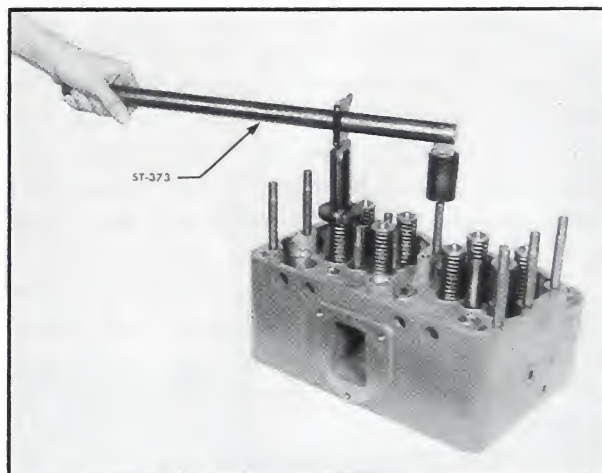

Fig. 3-1. Valve spring compressor
2. ST-373 is a simple valve spring compressor designed to be used on the cylinder head studs to compress one valve spring at a time. It can be used either at the bench or on an installed engine. Fig. 3-1.